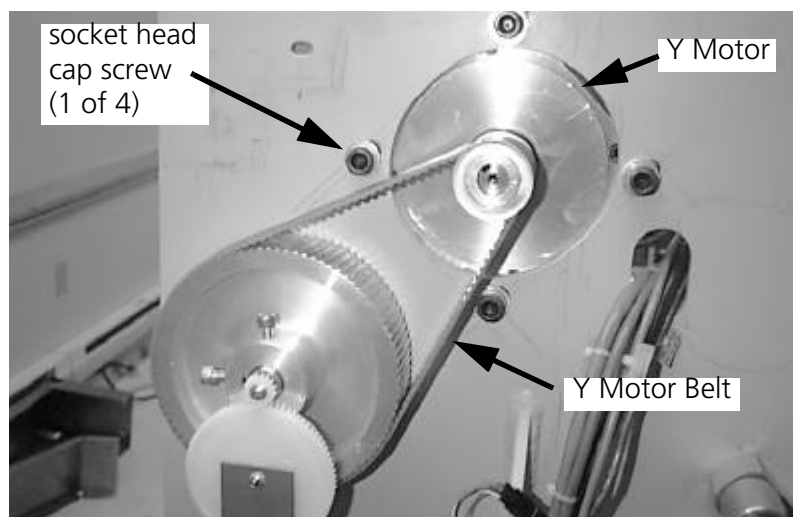
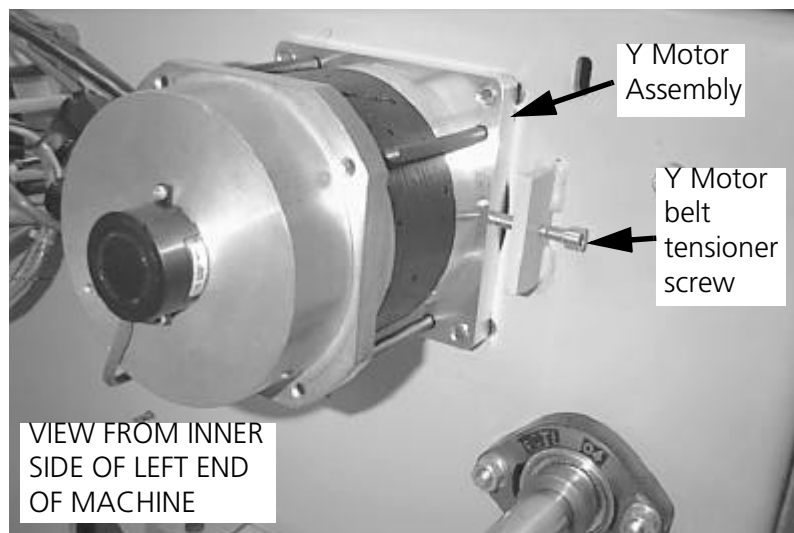

Figure 6-2
Figure 6-3
2. To gain access to the Y motor belt area shown in Figure 6-2, remove the machine cover at the left end of the machine.
4. Refer to Figure 6-3 and loosen the Y motor belt tensioner screw located on the inner side of the left end panel of the machine.
4. Refer to Figure 6-2 and loosen the motor mounting bracket bolts. Refer to Figure 6-3 and rotate the tensioner screw clockwise to increase the tension or counter-clockwise to decrease the tension.